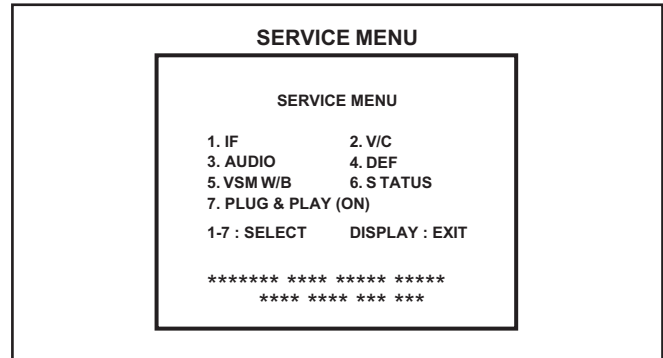

Fig.1
- (1) Remove the 15 screws [A] as shown in Fig.1.
- (2) Withdraw the REAR COVER toward you.
- (1) Slightly raise the both sides of the CHASSIS by hand and remove the 2 claws [B] under the CHASSIS from the front cabinet as shown in Fig.1.
- (2) Withdraw the CHASSIS backward.
- (1) Remove the 2 screws [C] as shown in Fig.1.
- (2) When you pull out the AV BOARD in the direction of arrow [D] as shown in Fig.1, it can be removed.
- (1) Remove the 2 screws [G] as shown in Fig.1.
- (2) Withdraw the SPEAKER backward.
- (3) Follow the same steps when removing the other hand SPEAKER.
- (1) Remove the 4 screws [H] as shown in Fig1.
- (2) Withdraw the FRONT CONTROL PWB(2/2).
- (1) Press the **[DISPLAY]** key and the **[PICTURE MODE]** key of the REMOTE CONTROL UNIT simultaneously.
- (2) The SERVICE MODE screen of Fig. 1 will be displayed.
Verify what to set in the SERVICE MODE, and set whatever is necessary (Fig.1).